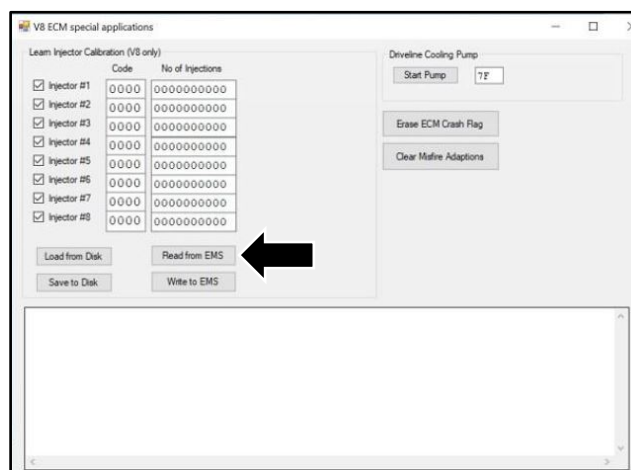

Figure 3
8. Select “Read from EMS” (refer to Figure 3).